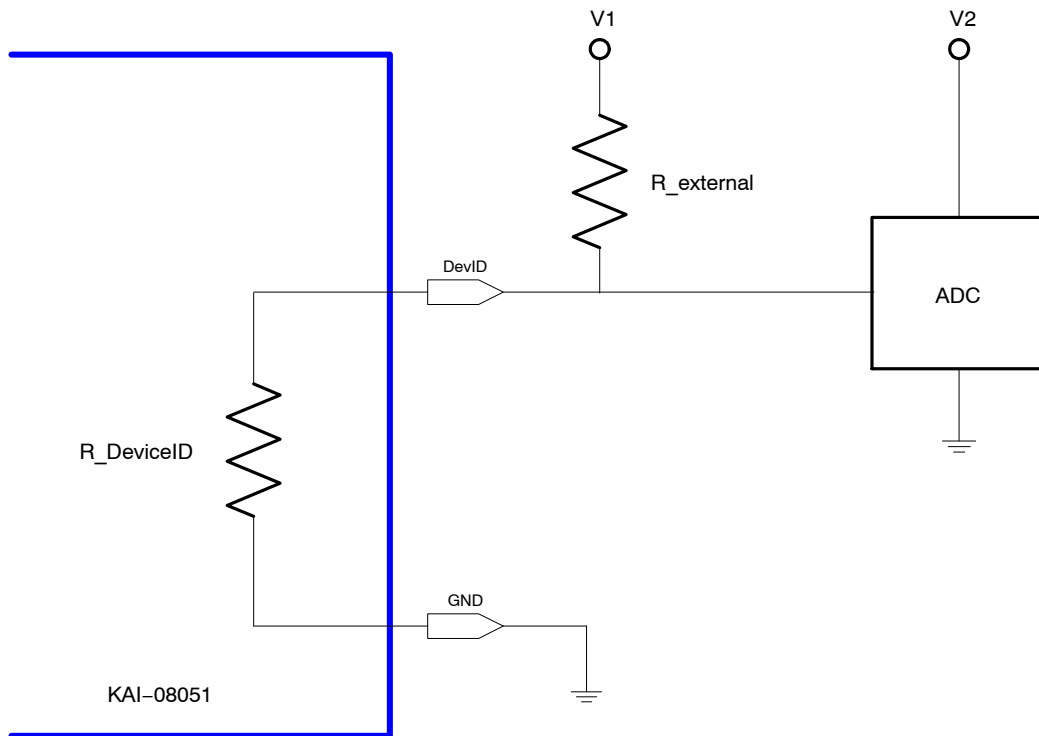

Figure 21. Device Identification Recommended Circuit
1. Refer to timing diagrams as shown in Figures 21, 22, 23, 24 and 25.
The timing sequence for the clocked device pins may be represented as one of seven patterns (P1–P7) as shown in the table below. The patterns are defined in Figure 21 and